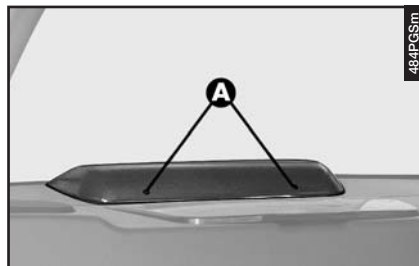

fig. 63
- Remove the rubber caps (**A**-fig. 63).
- Refit the protective caps (**A**-fig. 63).